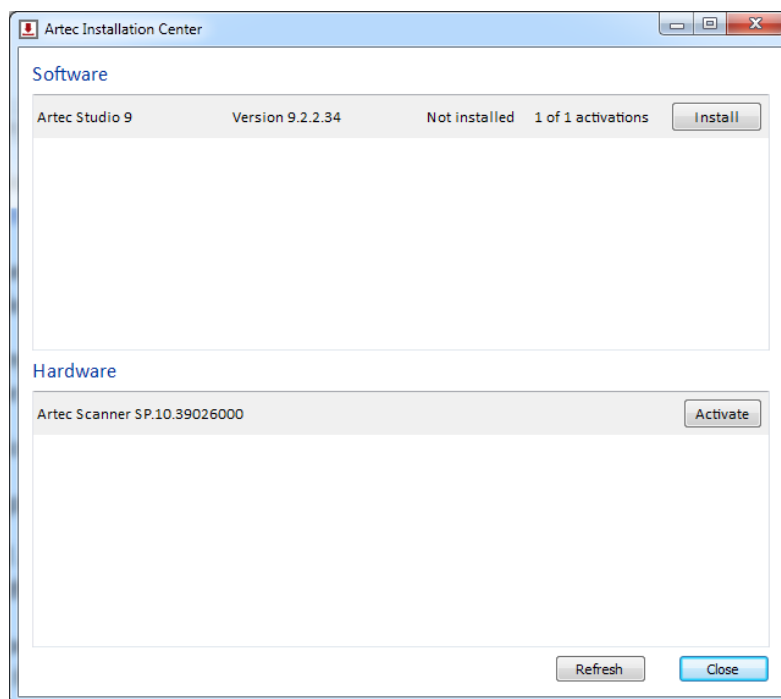
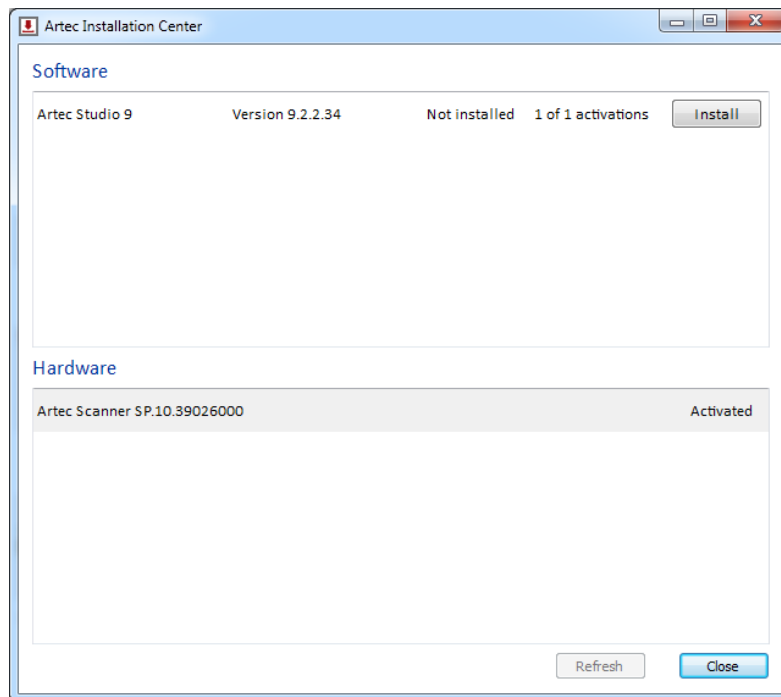

Figure 4.4.: Activate button for 3D scanner
Figure 4.5.: 3D scanner activated
1. Run Artec Installation Center (go to the Start menu: click *Start* → *All Programs* → *Artec Group* → *Artec Installation Center*) to bring up the window shown in *Figure 4.4.*
3. Go to Artec Installation Center, click *Refresh* and wait for the new 3D scanner to appear in the hardware box (see *Figure 4.4.*). Click *Activate* (to the right of the serial number) to enable your 3D scanner. The status of the device should change to *Activated*, as *Figure 4.5.* shows.